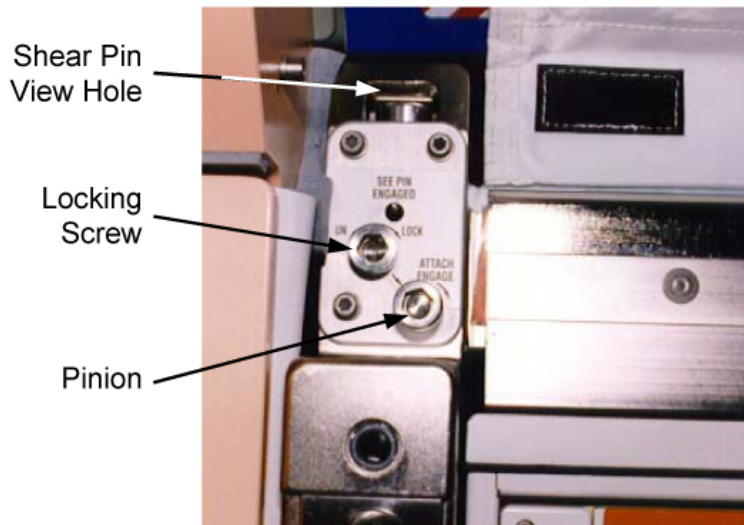

Figure 25. Upper Attach Mechanism (Left Side).
- 15.1 Loosen left locking screw 10 to 12 turns, or until threads completely disengage (Ratchet, 3/8" Drive; 6" Long, 3/8" Hex Head, 3/8" Drive). Refer to Figure 25.